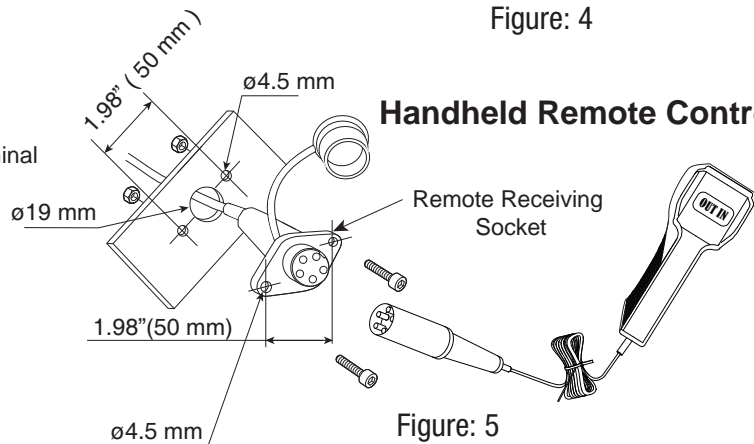

Figure: 5
2. Drill 3 holes as per the pattern & dimensions shown in the figure 5 & mount the socket.